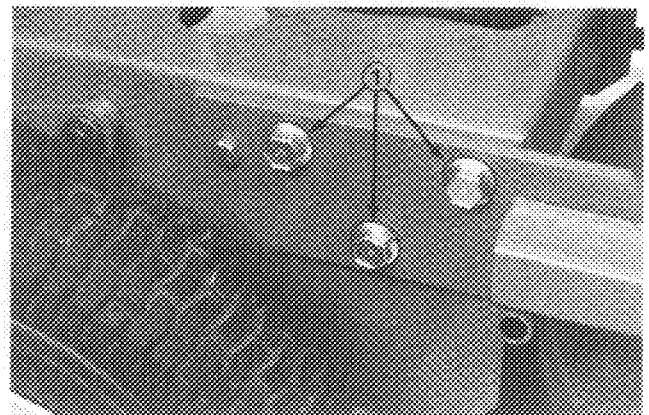

Figure 2
1. Align carrier frame mounting holes with mounting holes in traction frame. Secure each side with three flange screws and locknuts. (Fig. 2). Torque fasteners to 60-80 ft-lb. (81-109 N.m).